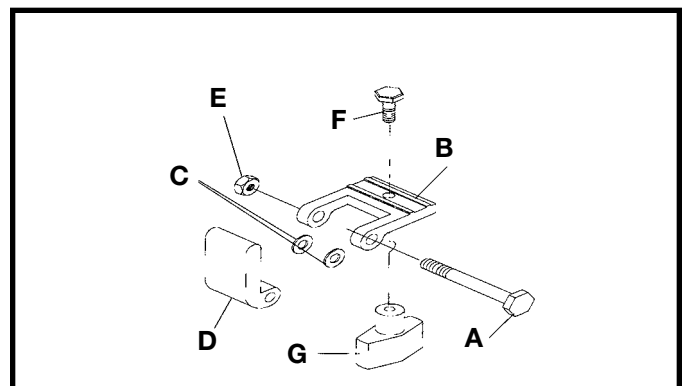

Fig. 26
1. Insert 1/4-20x2" bolt (A) through hole into one side of bracket (B) Fig. 26.
2. Place one washer (C), on bolt (A), and slide bolt through flip stop (D) Fig. 26.
3. Place the other washer (C), on bolt (A), and slide bolt (A) through other side of bracket (B) Fig. 26.
4. Screw nut (E) onto bolt (A) and tighten.
5. Insert bolt (F) through bracket (B) as shown and screw knob (G) onto bolt (F) approximately 3 complete turns. Fig. 26.